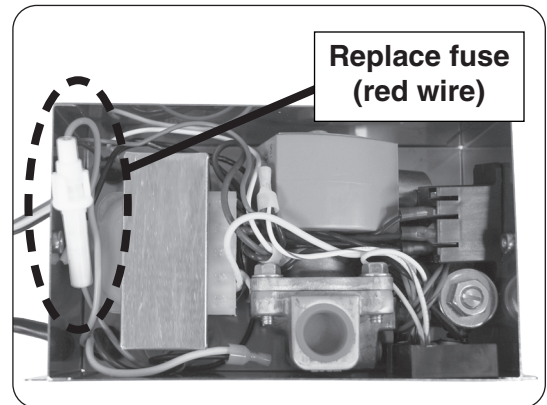

Fig. 43-2 Replace fuse
5. "Push in and twist" the fuse holder (red wire), exposing the fuse (see Fig. 43-2).